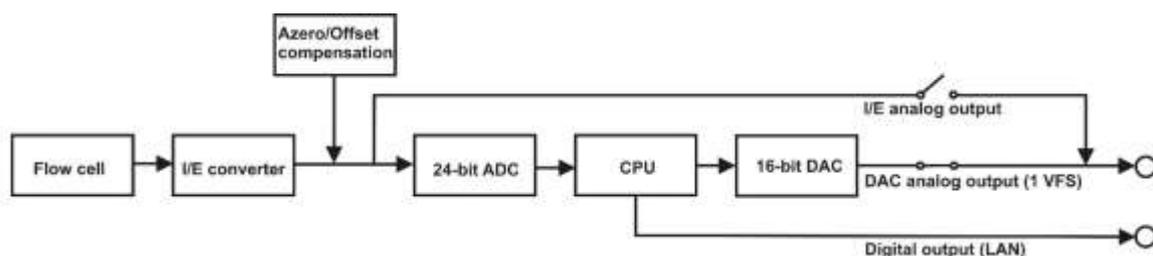

Fig. 15. DECADE Elite signal processing from electrochemical flow cell to output.
At the working electrode (WE) in the electrochemical flow cell the electron transfer takes place due to an oxidation or reduction reaction. The resulting electrical current is amplified by the current-potential (I/E) converter (Fig. 15).
The Autozero function can be used to set the output voltage of the I/E converter (signal) to 0 Volt. This is done by means of an compensation amplifier in the analog measurement circuitry, see Fig. 15. This compensation circuitry enables the possibility to measure small current signals (analyte peaks) in a sensitive range even if the background cell current is high. For example with a background current of 20 nA one can still do measurements in the 1 nA range, because the maximum compensation for that range is 25 nA.